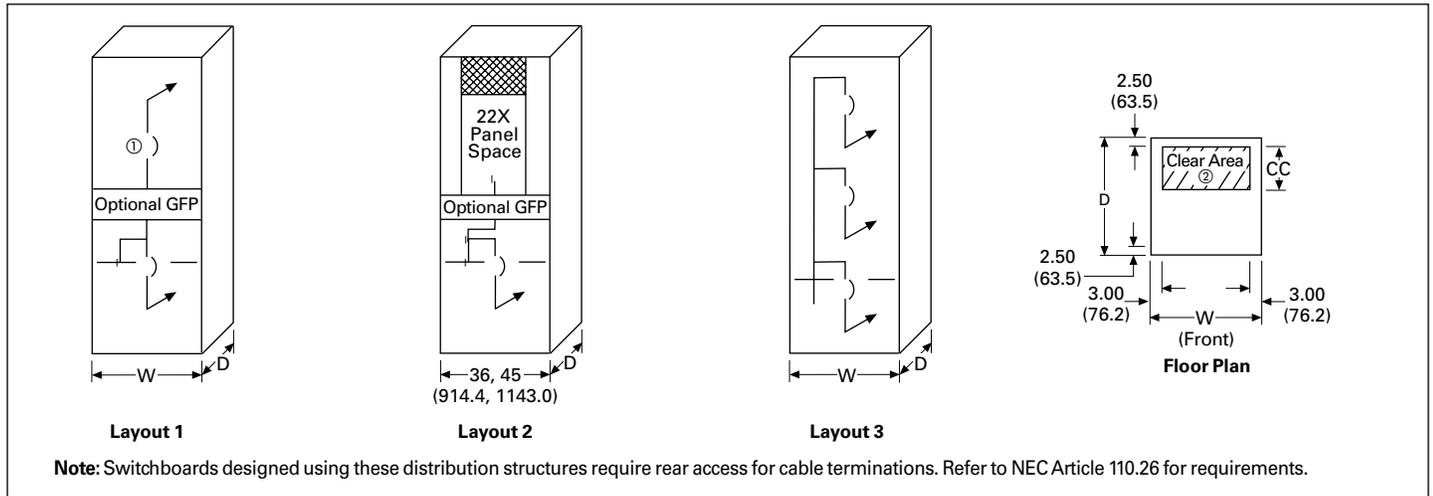

Figure 21.1-16. Individually Mounted Feeder Layouts—Dimensions in Inches (mm)
- ① When using top-mounted (bottom feed) inverted bolted switches, verify acceptance with code authorities.
- ② For **Layout 2**, width will be 36.00 or 45.00 inches (914.4 or 1143.0 mm) depending on size of panel mounting devices. Refer to **Page 21.1-38**.
Table 21.1-32. Stacked Distribution Structure Sizes for Figure 21.1-16 Layouts 1 and 2—Dimensions in Inches (mm) ③
Table 21.1-33. Stacked Distribution Structure Sizes for Figure 21.1-16 Layout 3 Only—Dimensions in Inches (mm)